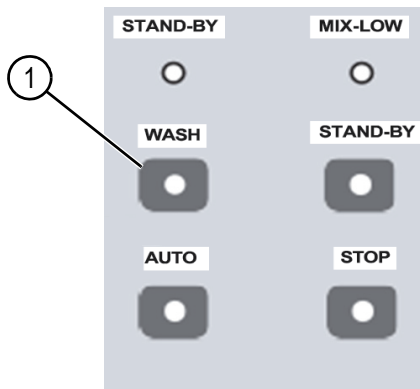

Figure 5-14
7. Press the WASH button (1) (Figure 5-14.) to allow water and sanitizing solution to flow from the hopper down through the freezing cylinder. Water and solution can then be discharged which will clean out any remaining residue